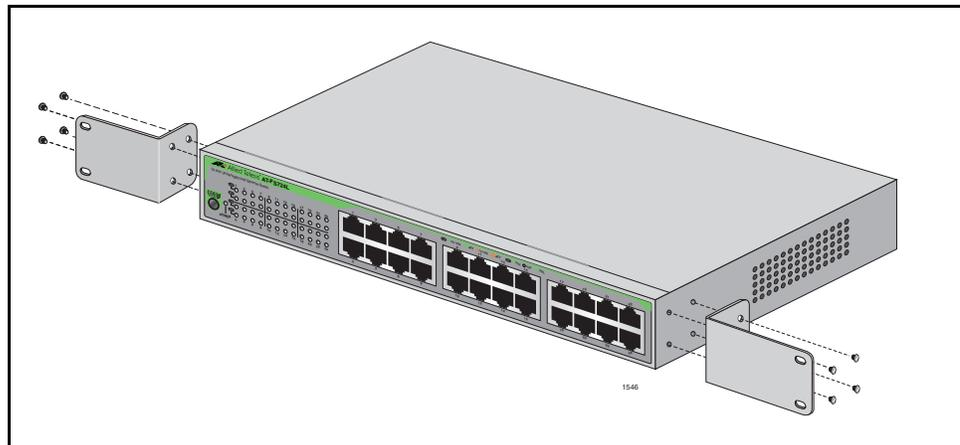

Figure 8. Attaching Brackets for Rackmounting
3. Attach the two mounting brackets (provided) to the sides of the switch using the bracketmounting screws (provided), as shown in Figure 8.